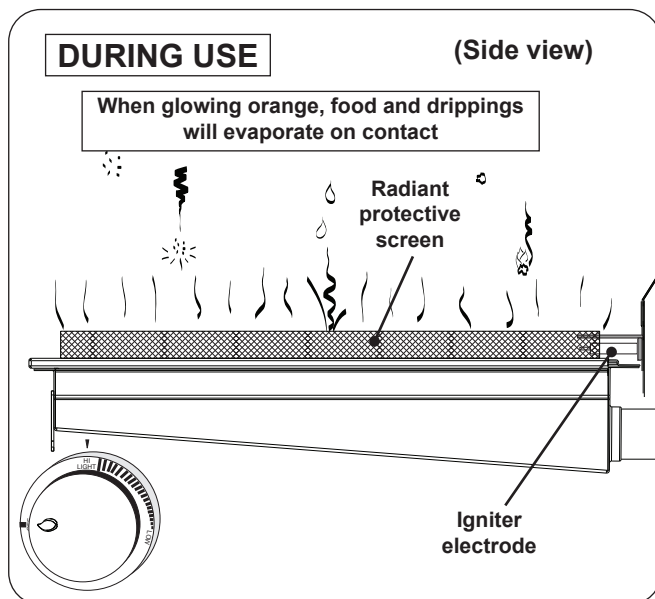

Fig. 6-3 Infrared burner - DURING USE
- **DO NOT place food on the cooking grid until the infrared burner glows orange (Fig. 6-3).** Drippings are heated and evaporate instead of sticking to and impairing burner function.